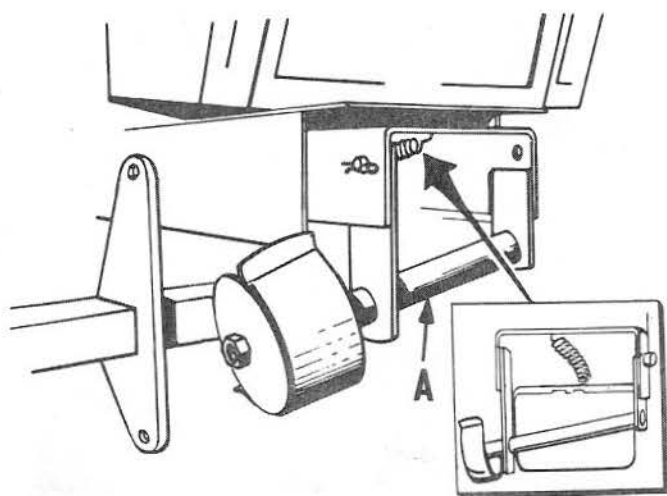

FIG. 1
1. Raise front channel cover and assemble idler shaft (A), to front of tractor frame, and hook spring into hole in rear of front axle bracket and hole in front of idler frame as shown in Fig. 1.